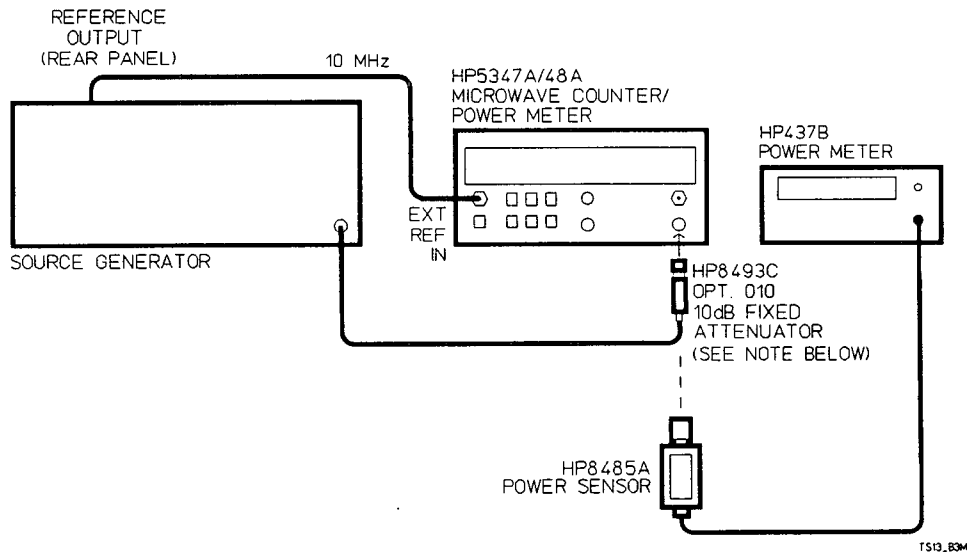

Figure 4-7. INPUT 1, 500 MHz-1 GHz Test Setup
The following test is in two parts, *Figure 4-7* is the test setup for Part I (500 MHz to 1 GHz), and *Figure 4-8* is the test setup for Part II (2.5 GHz to 20 GHz [26.5 GHz for HP 5348A]).
1. Connect the equipment as shown in Figure 4-7.